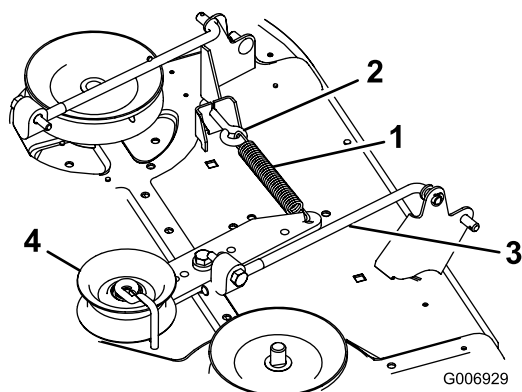

Figure 38
7. Unhook the spring on the idler pulley arm from the bracket on the mower (Figure 38).